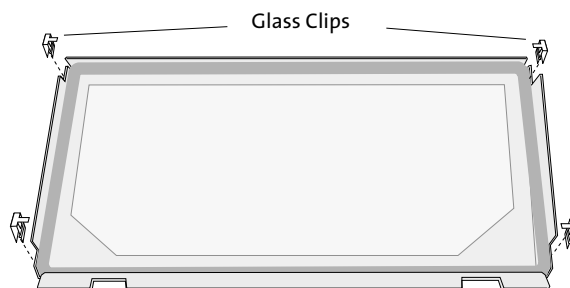

Figure 41. Use small pliers to pry the clips off of the glass panel frame.
3. The glass panel is held in place by four compression clips. Use a screwdriver or small pliers to pry these up off the edge of the glass retaining walls. See fig. 41.